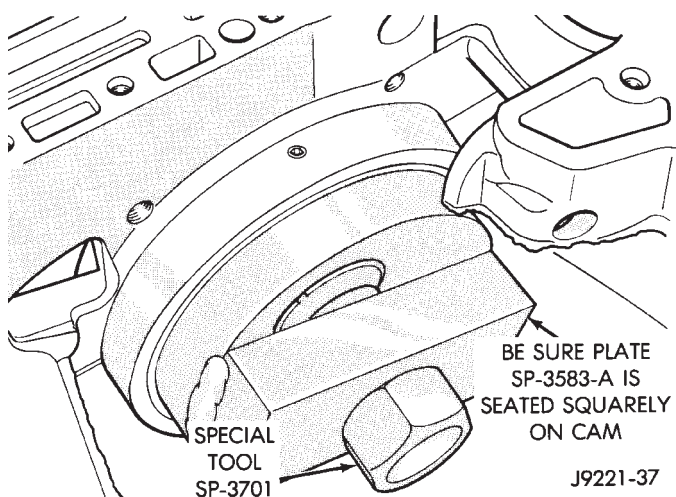

Fig. 44 Positioning Puller Plate On Clutch Cam
(9) Install assembled puller plate and bolt (Fig. 44). Insert bolt through cam, case and adapter tool. Be sure plate is seated squarely on cam.